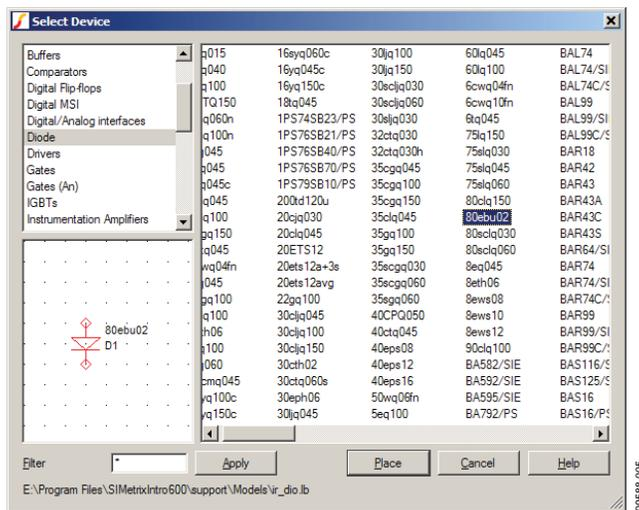

Figure 6. Model Library
2. Choose a model from the library (see Figure 6).